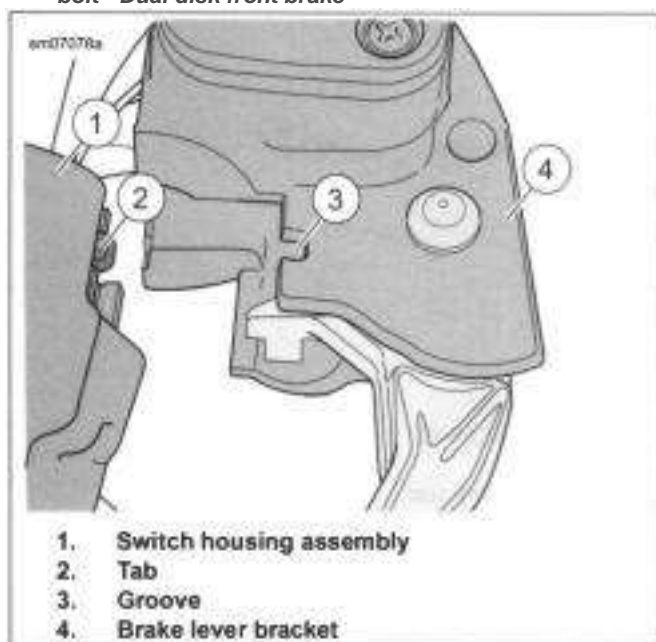

Figure 3-38. Attach Master Cylinder to Right Handlebar Switches
1. See Figure 3-38. Position the brake lever/master cylinder assembly inboard of the switch housing assembly, engaging the tab (2) on the lower switch housing (1) in the groove (3) at the top of the brake lever bracket (4).